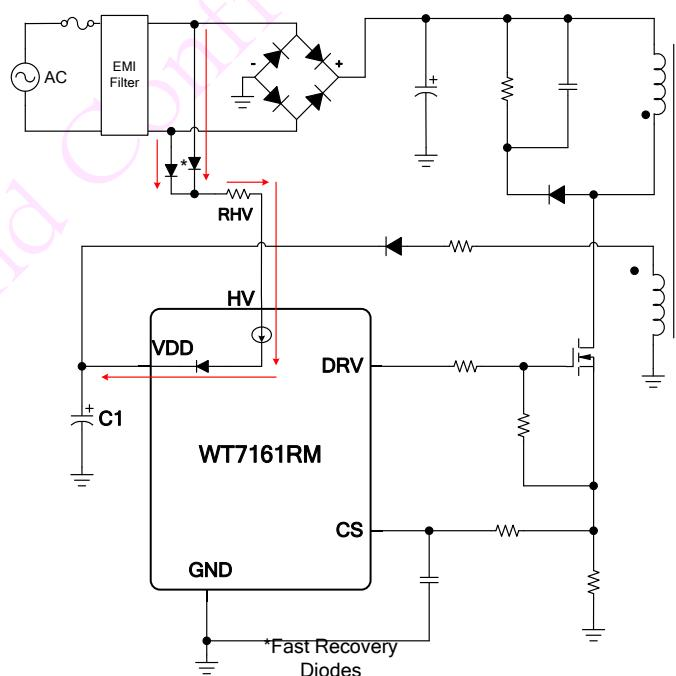

Fig. 5.1
The WT7161RM is implemented with a high-voltage startup circuit for fast start-up functions and reduce power dissipations, as shown in Fig. 5.1. At startup, the high-voltage current source sinks current from AC Line and Neutral to provide startup current and charge the capacitor C1 which connected to VDD. At the startup transient, the HV current will charge VDD capacitor until this VDD voltage reaches the UVLO (ON) threshold. As VDD trips UVLO (OFF), HV pin will recharge VDD capacitor till VDD voltage rise back to UVLO (ON) again. The resistor RVH connected in series with HV pin is recommended in the range between 100Ω and 510Ω . It's suggested to choose fast reverse recovery type of HV diodes. Besides, it is recommended that the VDD capacitor C1 connected with VDD pin is in the range from $22\mu F$ to $47\mu F$. It is important to note that it is not allowed to connect HV pin to any dc voltage. (e.g.: directly to bulk capacitor)